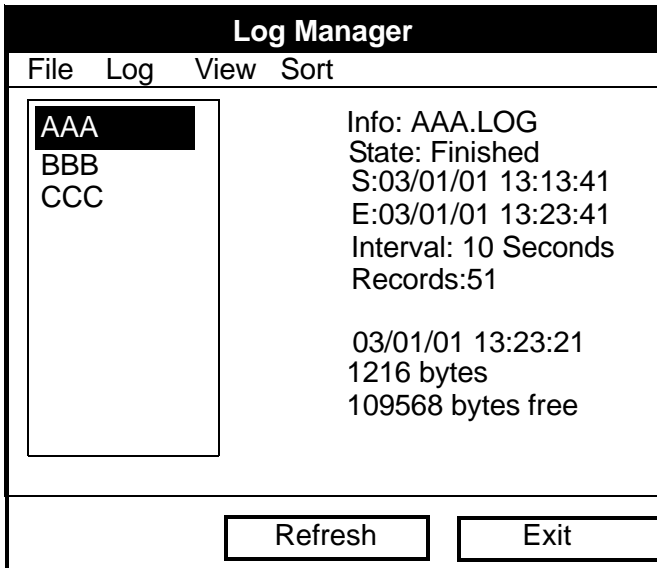

Figure 89: Log Manager Window
The Log Manager offers users a way to check the status and memory size of all the logs currently pending, running or finished. To select Log Manager, scroll to the Manager entry on the Logging Menu and press [ENTER]. The screen appears similar to Figure 89 below. The right section of the screen supplies information for the log highlighted in the list on the left. You can use the [▼] and [▲] arrow keys to scroll to a particular log and display information pertaining to that log.
1. First, select the log you wish to copy in the Log Manager (shown in Figure 89 on page 133).
1. First, select the log you wish to rename in the Log Manager (shown in Figure 89 on page 133)).
1. First, select the log you wish to delete in the Log Manager (shown in Figure 89 on page 133)).